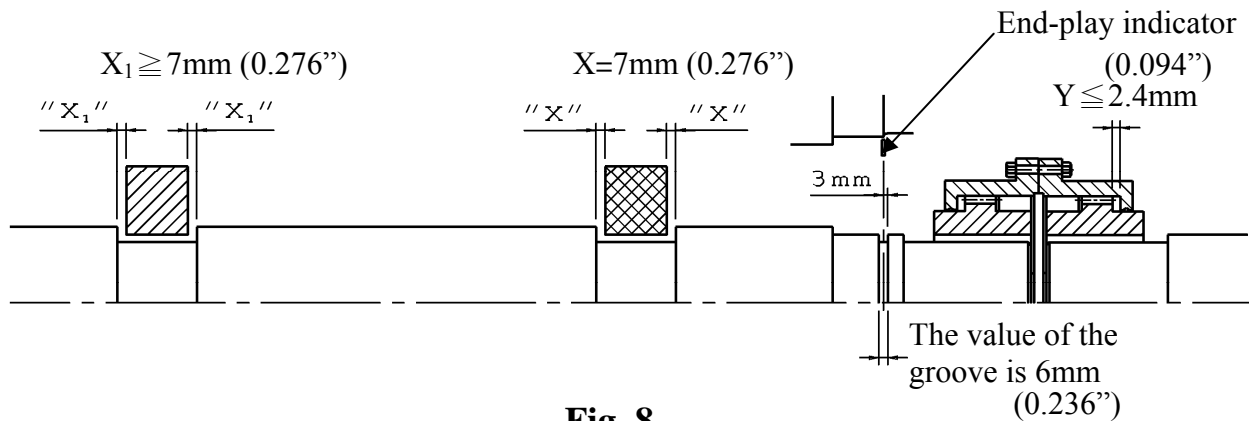

Fig. 8
- Unless otherwise specified, the designed end-play value X of the groove for TECO motors in general is within 7mm (0.276'') as illustrated in Fig. 8. In essence, the end-play indicator is adjusted to point at the center of the groove or the drive-end shaft shoulder; thus X equals to $7 \pm 1\text{mm}$ (0.276'' \pm 0.039'') or so, and the end-play value (Y) of the couplings should equal or be smaller than 2.4mm (0.094'').